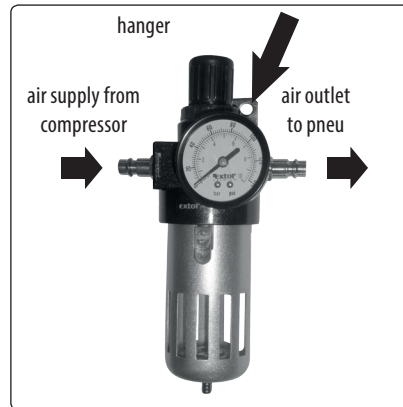

Fig. 9, description of the pressure regulator with pressure gauge and filter Extol® 8865104
- Connect the air outlet from the compressor to the correct hole on the treatment equipment, see fig.9.